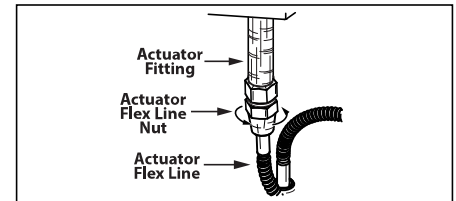

Figure 58 - Actuator Flex Line Connection
**8** Reinstall the actuator flex line to the actuator fitting using the 9/16” wrench until snug (See Figure 58).